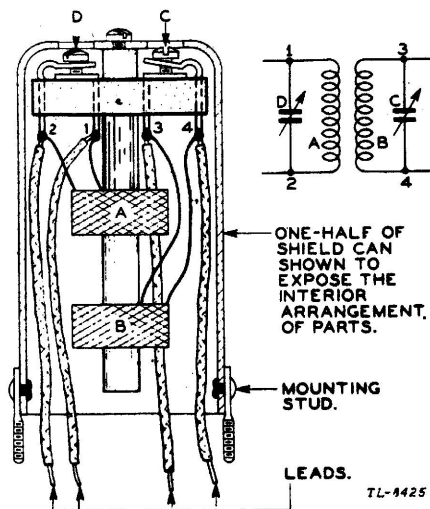

Fig 2. Internal structure of I-f transformer
d. *R-f and I-f Transformers.* Although r-f and i-f coils are designed carefully, they can be made to operate surprisingly well by emergency repair. With an i-f transformer having an open or intermittently open primary, (fig. 2, coil A), the procedure is as follows:
(1) Remove nuts from mounting studs after removing leads from various terminal points, and take entire transformer off chassis.
(2) Remove coil from shield can, and fold leads back, out of the way.
(3) Clip the two fine wires, which are the ends of coil A, from the terminal points 1 and 2. This should clear the way for unwinding the coil.
(4) Carefully unwind the turns onto a stick, cardboard, or other fairly smooth material so as not to cut the wire. Examine the wire carefully as it is unwound.
(5) The break or burnout usually is found by observing one of the following indications: